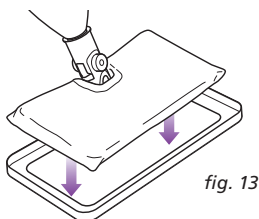

fig. 13
- 1 The Carpet Glider can be used with the All-Purpose Head to lightly steam your carpet and area rugs. Just place the mop head with the cleaning pad attached into the glider. The recommended steam setting is **SCRUB** when using the Carpet Glider. (fig. 13)